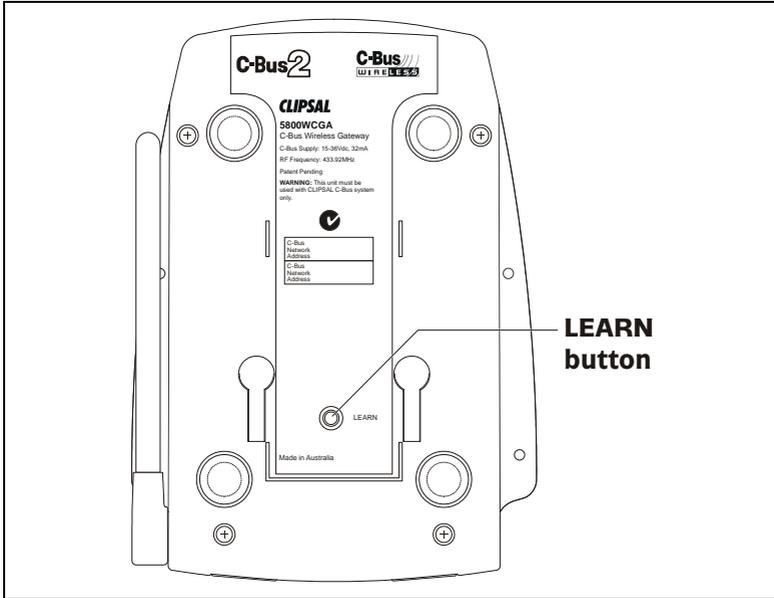

Figure 3 – The LEARN button is on the base of the Gateway
- 3) Press the LEARN button on the base of the Gateway (shown in Figure 3). An indicator light at the front of the Gateway starts flashing slowly. You must complete step 4 within 3 minutes of pressing the LEARN button.